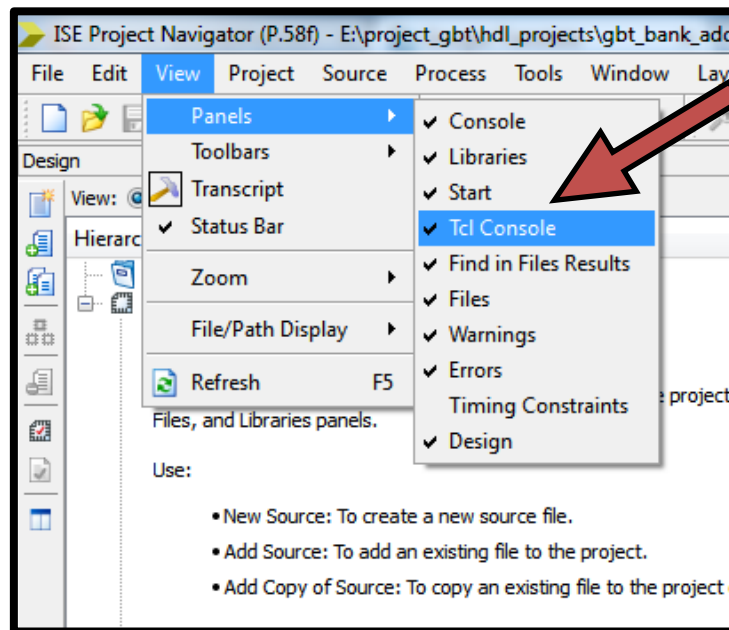

Figure 18: Activating the "Tcl Console" of ISE
5. If the TCL console is not visible, go to "View" -> "Panels" and click on "Tcl Console" (See Figure 18).